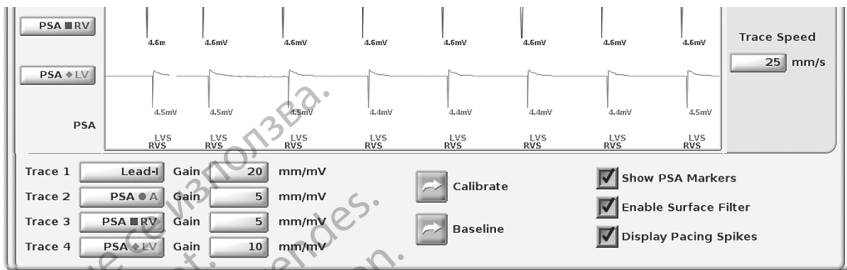

Figure 8. Lead Traces panel example (lower portion, magnified)
- The Magnify Traces button  enlarges the lead trace area to fill the display window and provides additional information at the bottom of the traces display. See Figure 8.